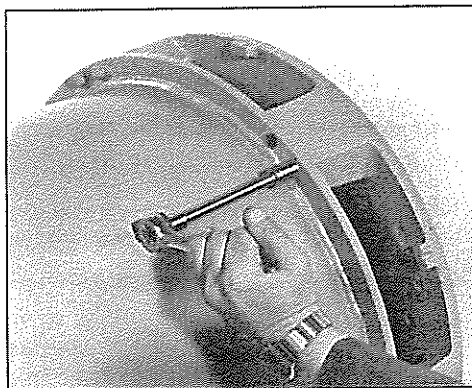

Figure 6-26
5. a. For single bearing generators, remove the capscrews holding the SAE adapter to the generator and remove the adapter (figures 6-26 and 6-27).
b. For two-bearing generators, remove the capscrews holding the drive end bracket to the generator and remove the bracket (figures 6-26 and 6-28).